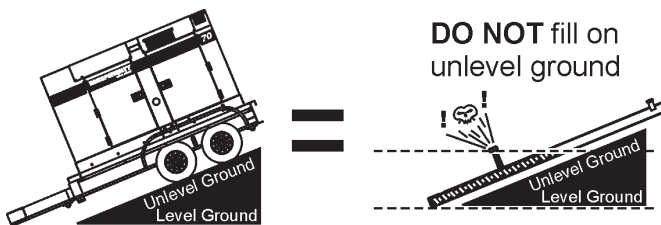

Figure 19. Only Fill on Level Ground
1. **Level Tanks** — Make sure fuel cells are level with the ground. Failure to do so will cause fuel to spill from the tank before reaching full capacity (Figure 19).